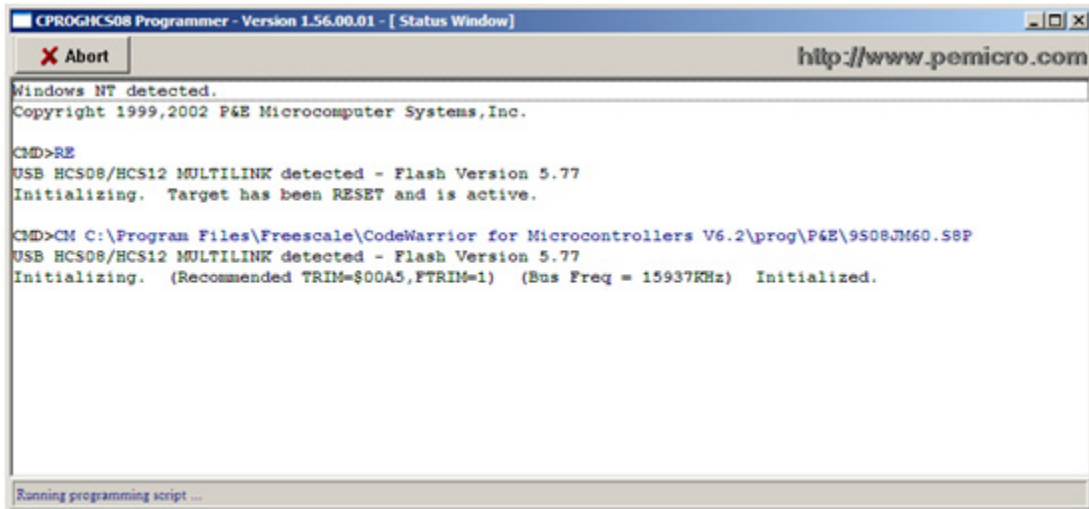

Figure A-13. Image Programmed in Flash
4. The pop-up in Figure A-13 appears to erase and program the built image to the JM60 flash.